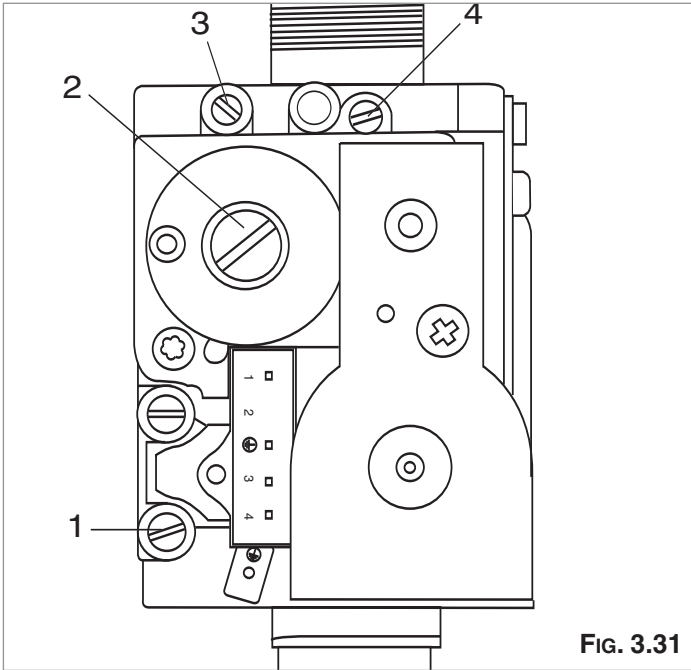

FIG. 3.31
1. Loosen screw "1" (Fig. 3.31) and connect the pressure gauge connection pipe into the test point.
2. Turn the boiler on at minimum power via the test function (see paragraph 3.6.1) or by pressing RESET key for 5 seconds and the programming key - on the control panel. Ensure the CO₂ value on the analyser corresponds with the value indicated in table 4D. If this is not the case, adjust screw "2" (Fig.3.31) with a screwdriver, after removing the cap, until you obtain the correct CO₂ reading. Allow the reading to become stable for at least 4 minutes.
3. When the check is over, replace the cap on screw "2" (Fig. 3.31).
1. With the combustion analyser already connected to the analysis point, set the boiler to maximum power via the test function (see paragraph 3.6.1) or enabling the "flue sweep function" by pressing the RESET key for 5 seconds and the programming keys + and -. Ensure the CO₂ value on the analyser corresponds with the value indicated in table 4D. If this is not the case, adjust screw "4" with a screwdriver (Fig. 3.31), until you obtain the correct CO₂ reading. Allow the reading to become stable for at least 4 minutes.